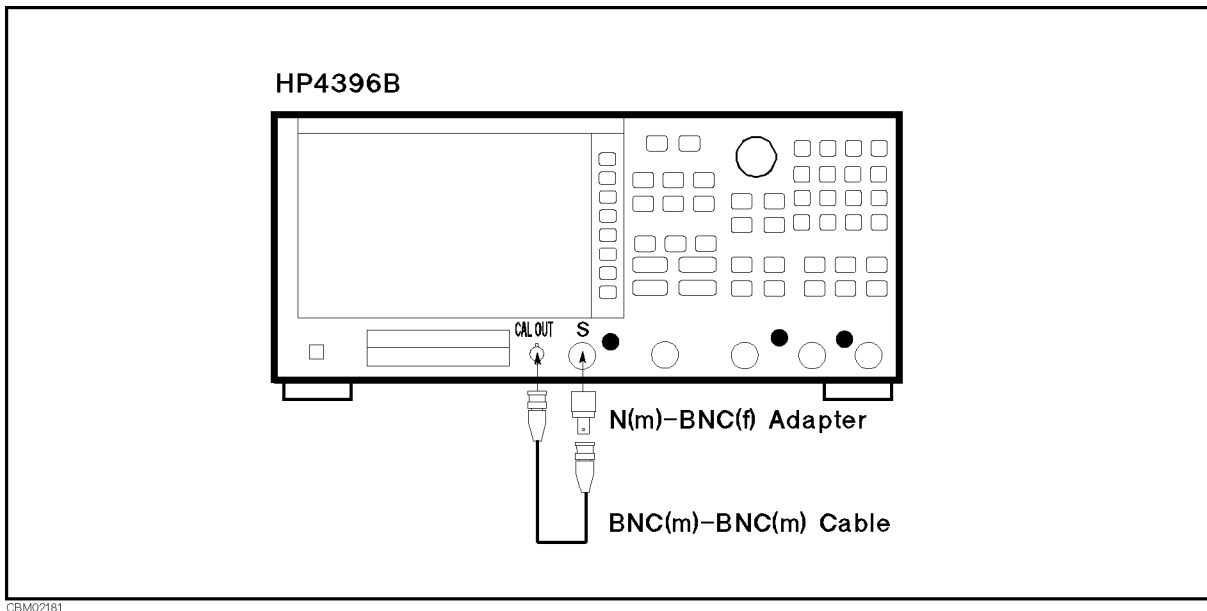

Figure 2-23. RBW Switching Uncertainty Test Setup
1. Connect the test equipment as shown in Figure 2-23.